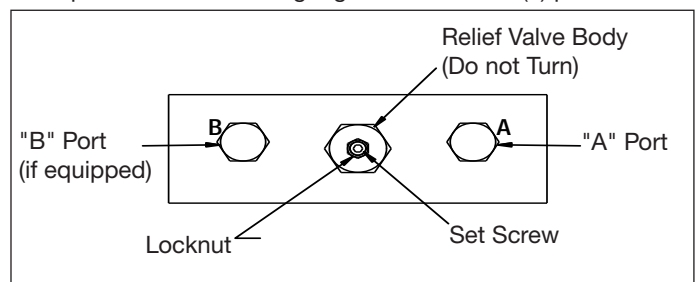

Figure 30: Adjustment Details
1. Install a 0-15,000 psi [0-1,035 bar] gauge in the "A" port (see Figure 30).